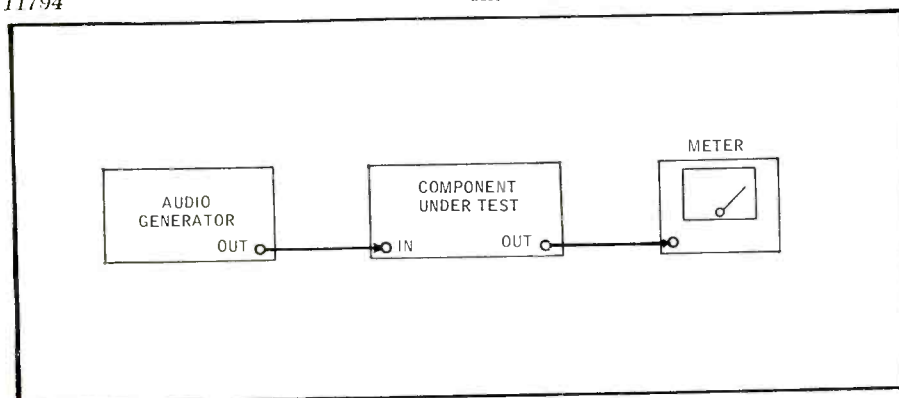
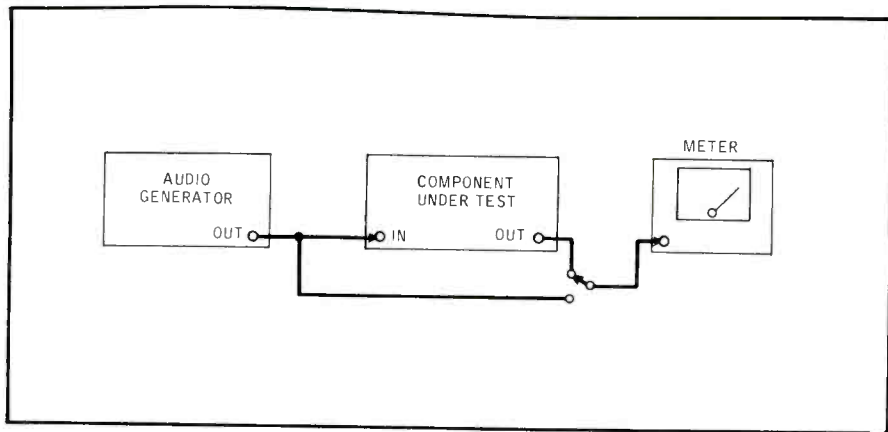

Fig. 1. Checking an audio component for frequency response.
Fig. 2. Checking an audio component for frequency response, using the meter to adjust the generator for "flat" (uniform) output over the frequency spectrum.
**Frequency Response.** To check the response of a single component or the assembled system, you need an audio generator to feed signals in, and a meter to measure the signals coming out, as in Fig. 1. The generator is connected to the item under test, say an amplifier, just as a tuner would be connected to the amplifier. The meter is connected to the output of the item (amplifier) under test. Feed in a series of signals covering the audio range and perhaps beyond, and measure their relative level at the output. The input signals must be "flat"—all of equal magnitude. Some audio generators have a built-in meter for this purpose; you can adjust the level of the input signal in accordance with the meter indication. If the generator has no meter, use the setup of Fig. 2 to ensure flat input signals. Then the one meter is switched to read input and output signals alternately. These readings are in dB (decibels) rather than absolute voltage. The meter must have flat response over the frequency range used for the test.